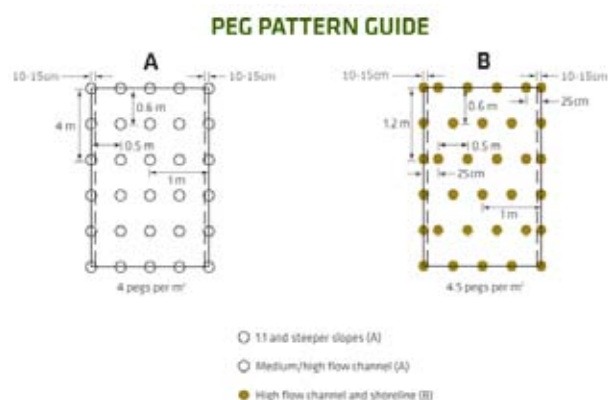

Fig 1
4. Roll the RECP (Fig 2-3A) down or (Fig 2-3B) horizontally across the slope. RECPs will unroll with the correct side against the soil surface. All RECPs must be securely pegged to the soil surface by placing pegs in appropriate locations as shown in the peg pattern guide above (Fig 1).